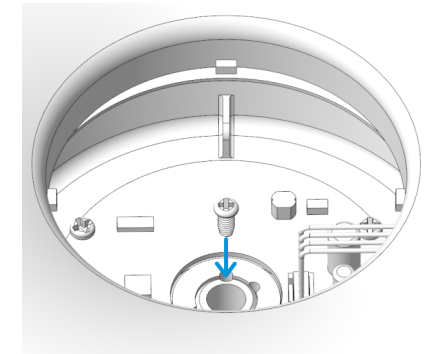

Fig. 2.2
2.2 Align one of the four slots in the middle hole of the lampshade with the slot of the motor shaft, and then install the light kit screw to secure the lampshade in place as shown in Fig.2.2.